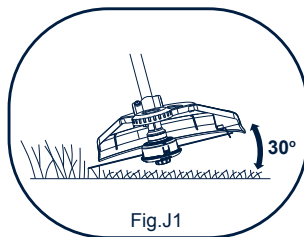

Fig.J1
- 3) Hold the trimmer head just above the ground at an angle of about 30°. (See. Fig. J1)